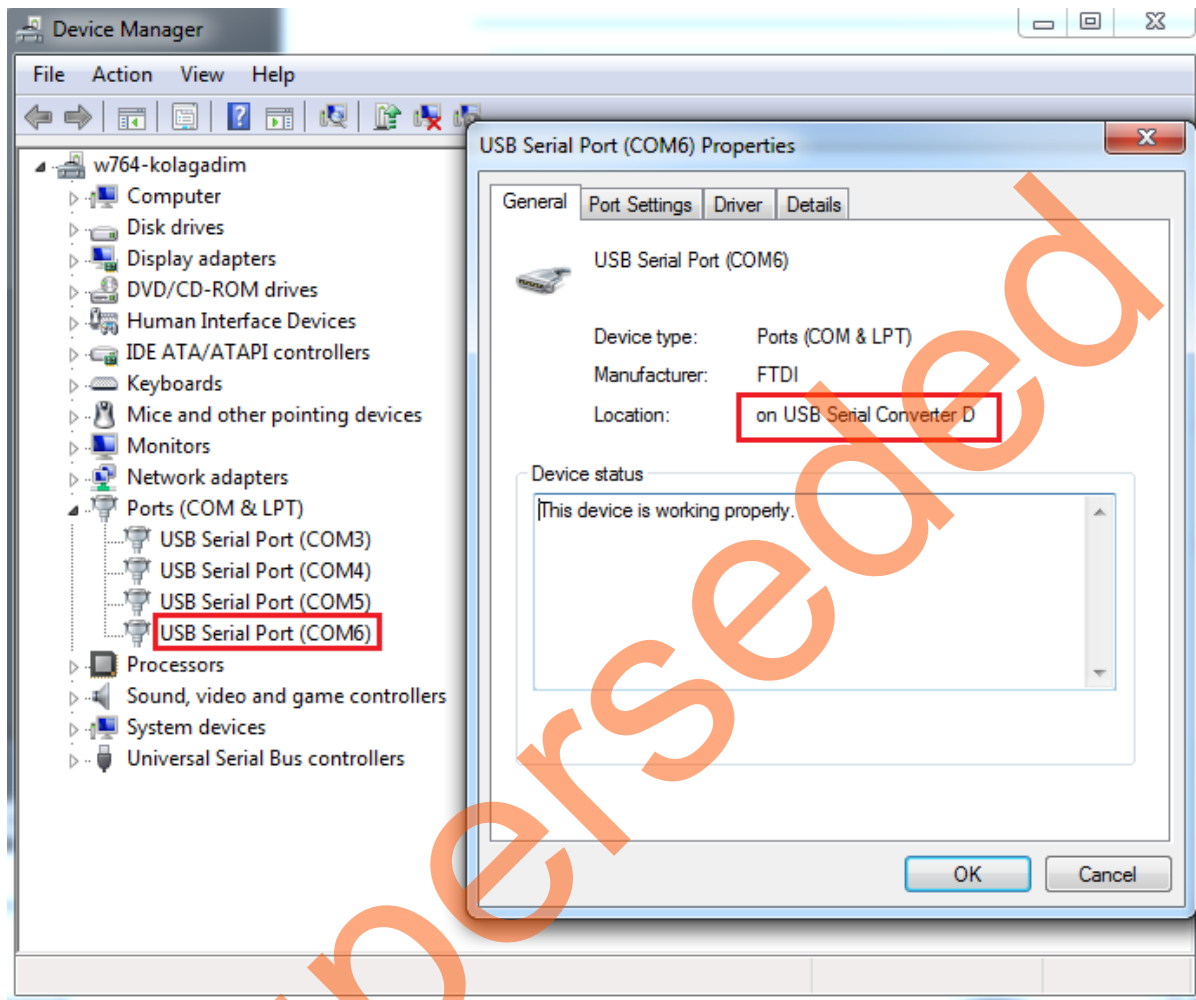

Figure 8 • Device Manager Window Showing the USB-to-Serial Communication Port
4. Connect the host PC to the J24 connector using the USB A to mini-B cable. The USB to UART bridge drivers are automatically detected. Verify if the detection is made in the device manager as shown in Figure 8.